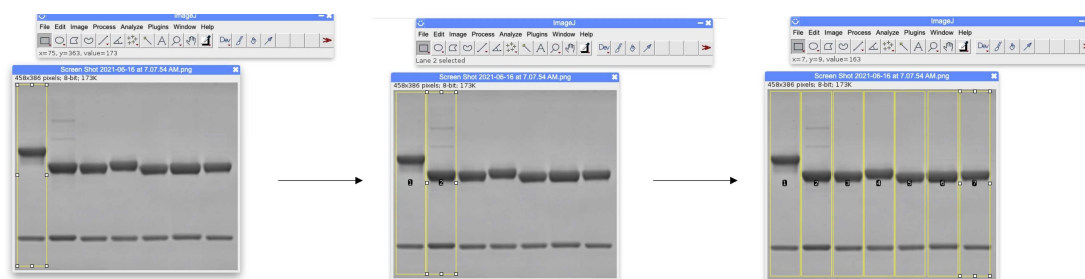

Figure 2: Coomassie-stained protein gel in ImageJ photo software.
- Using the box tool, draw a box around the entire first gel lane (as in Figure 2).